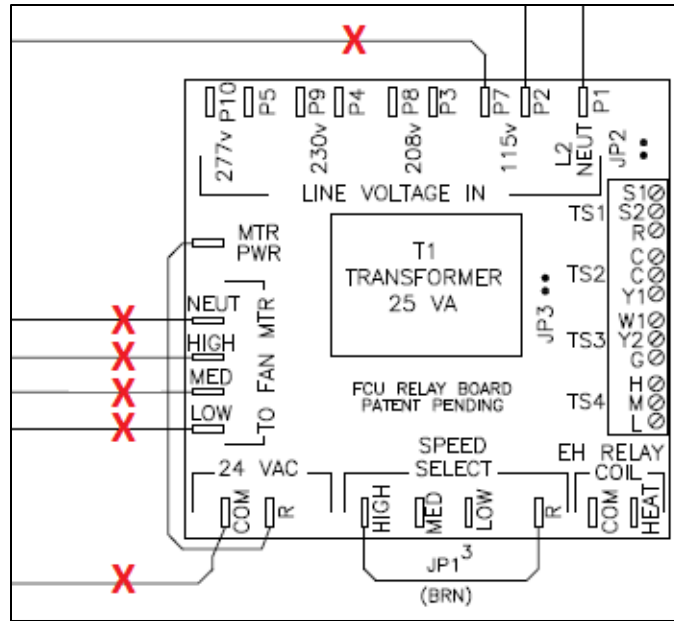

Figure 7 – Removing EC 3 SPD motor wires
c. EC 3SPD Motors (see Figure 7)